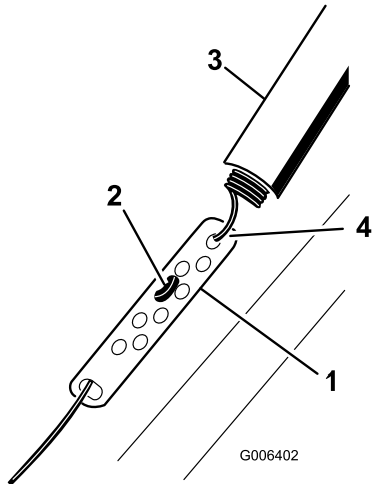

Figure 17
- Slide up the spring cover and unhook the spring from the adjuster link (Figure 17).